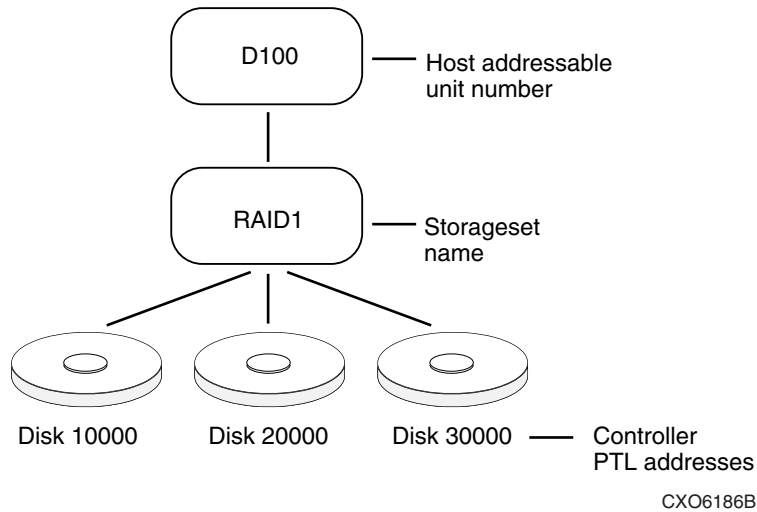

Figure 14: Mapping a unit to physical disk drives
The HSG80 controller has six SCSI device ports, each of which connects to a SCSI bus. In dual-controller subsystems, these device buses are shared between the two controllers. (The *StorageWorks* Command Console calls the device ports “channels.”) The standard BA370 enclosure provides a maximum of four SCSI target identifications (ID) for each device port. If more target IDs are needed, expansion enclosures can be added to the subsystem. For an example of how units are mapped to physical disk drives, see Figure 14.